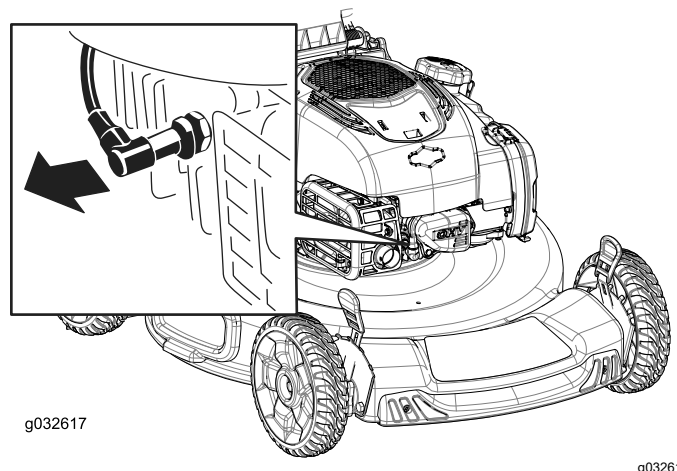

Figure 29
- Disconnect the spark-plug wire from the spark plug (Figure 29).